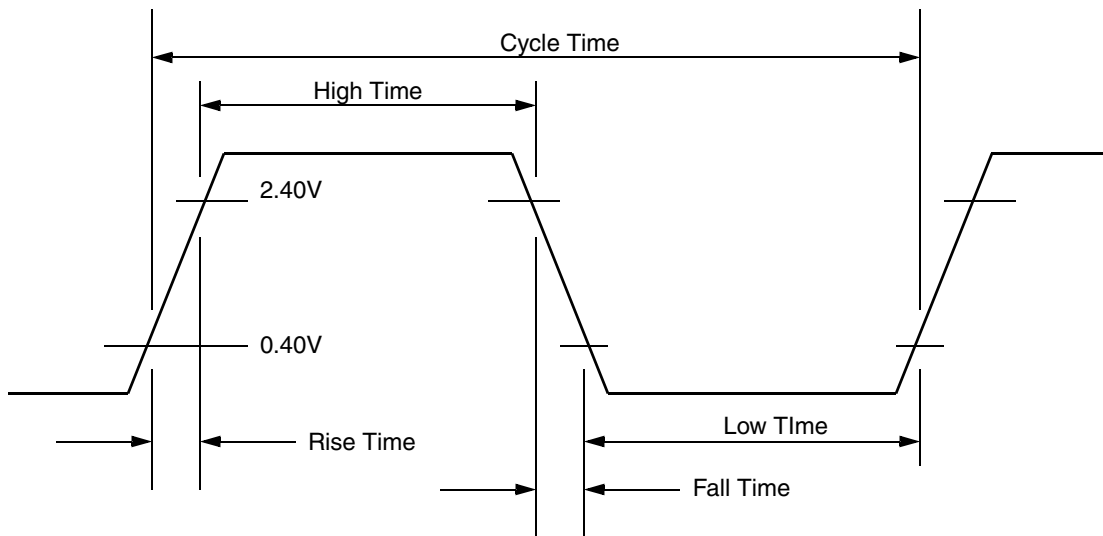
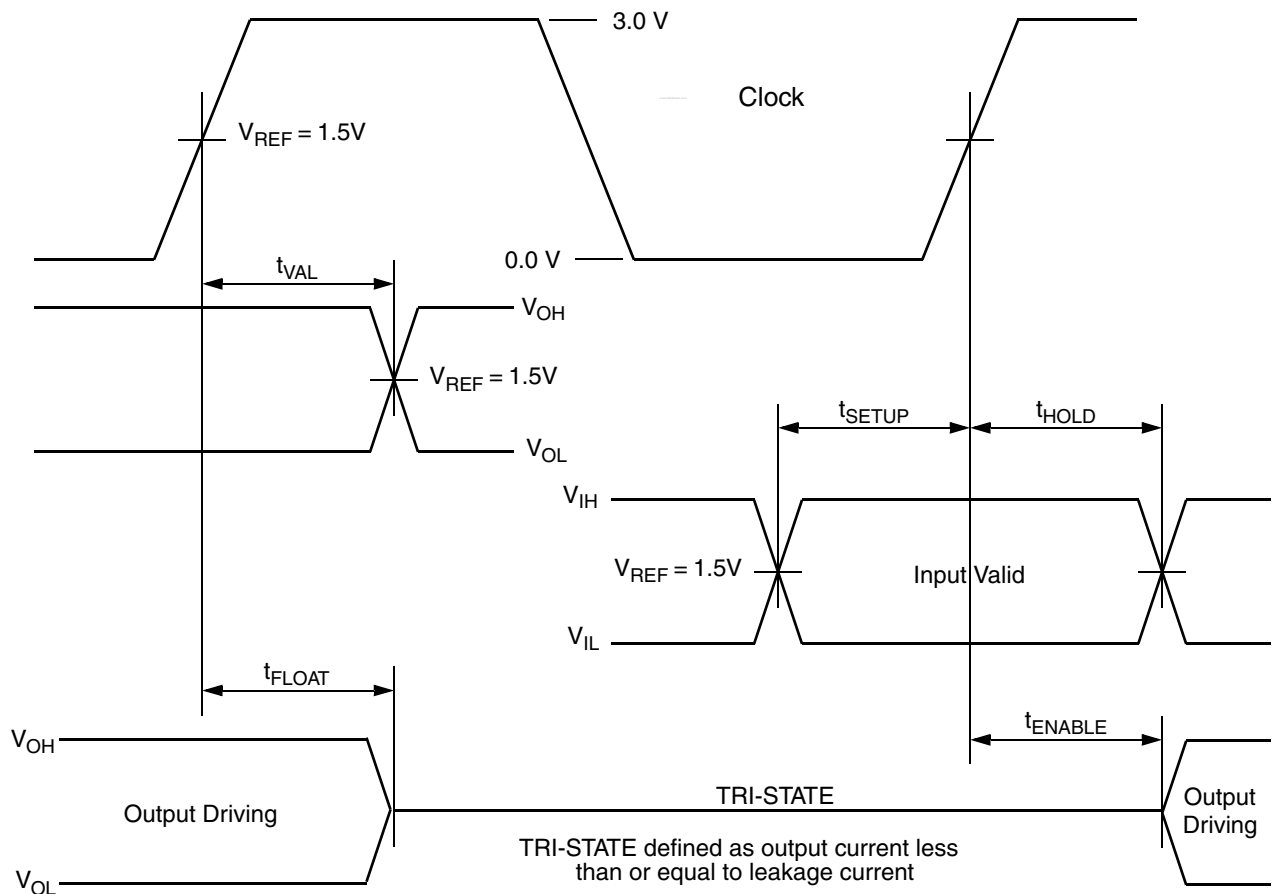

Figure 7-1. Clock Reference Definition
Figure 7-2. AC Reference Timing and Test Definition
Unless otherwise indicated, no inputs have a specified hysteresis. Figure 7-1 and Figure 7-2 provide reference definitions used in this section.
Note 1. Signal parameters are defined in Figure 7-1 "Clock Reference Definition" on page 580.
- Signal and test parameters are defined in Figure 7-2 "AC Reference Timing and Test Definition" on page 580.